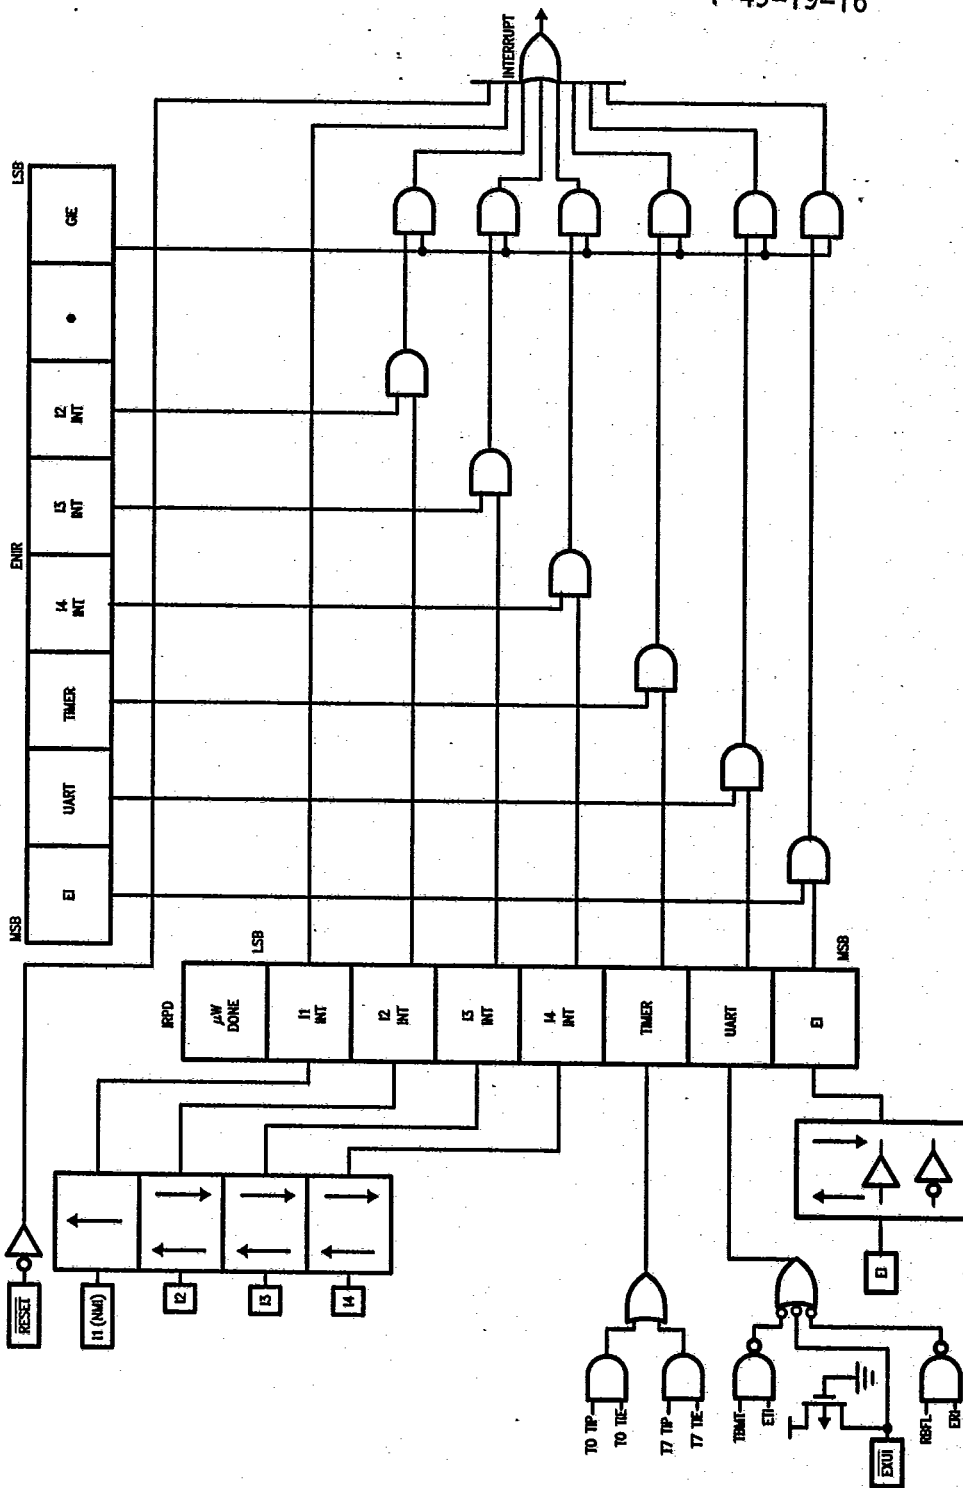

FIGURE 14. Block Diagram of Interrupt Logic
The interrupt, once acknowledged, pushes the program counter (PC) onto the stack thus incrementing the stack pointer (SP) twice. The Global Interrupt Enable bit (GIE) is copied into the CGIE bit of the PSW register; it is then reset, thus disabling further interrupts. The program counter is loaded with the contents of the memory at the vector address and the processor resumes operation at this point. At the end of the interrupt service routine, the user does a RETI instruction to pop the stack and re-enable interrupts if the CGIE bit is set, or RET to just pop the stack if the CGIE bit is clear, and then returns to the main program. The GIE bit can be set in the interrupt service routine to nest interrupts if desired. Figure 14 shows the Interrupt Enable Logic.